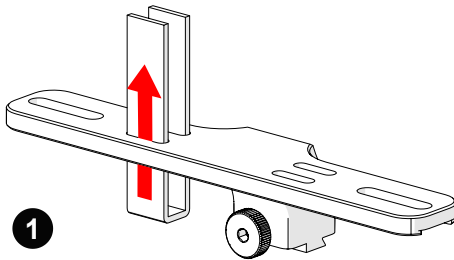

Fig. 79 - Insert velcro straps
1. Slide the velcro strap through the bracket's holes (Fig. 79).